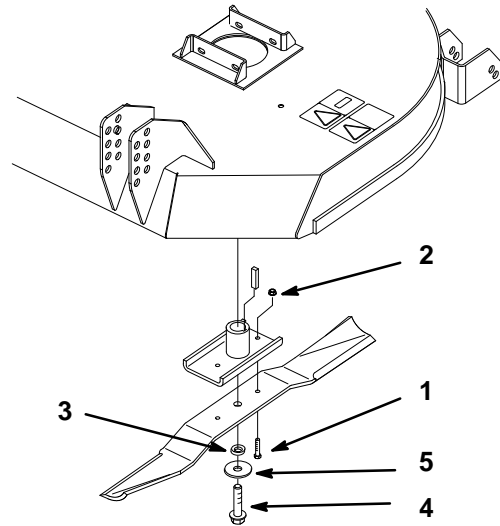

Figure 1
3. Remove shear bolts (Fig.1).
4. Rotate blade. Blade should rotate freely. If blade does not rotate freely, proceed to Replacing spacer. If it does, proceed to Installing new shear bolt (Fig.1).
2. Remove old spacer and replace with new spacer (Fig.1).
3. Reinstall blade bolt. Tighten blade bolt to 85–110 ft-lb (115–140 N•m) (Fig.1).
1. Install new shear bolts and lock nuts. Tighten the shear bolt to 80–90 in-lb (9–10 N•m) (Fig.1).
Note: Notice the direction of the shear bolts being replaced (Fig.1).